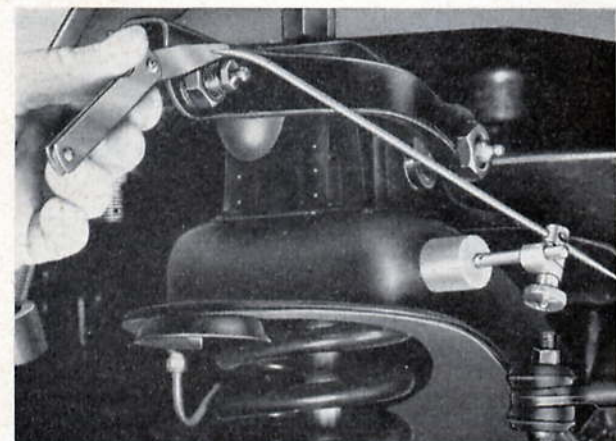

Fig. K.26. Checking the upper arm for slackness on the fulcrum shaft
- (a) Attach a pointer to the crossmember (Fig. K.26), and set the pointer to contact the ball joint nut when the arm is pushed right forward.
- (b) Now pull the arm right back and measure the gap between the pointer and the nut with feeler gauges (Fig. K.26). If the gap, i.e. arm movement, exceeds the specified maximum, renew the fulcrum shaft and screwed bushes.